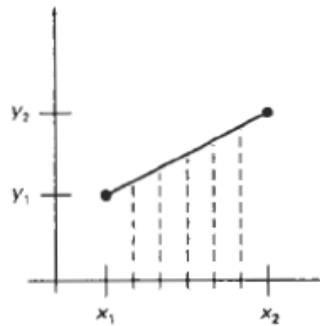

Figure 2: Straight line segment with five sampling positions along the x axis between x_1 , and x_2 .
- ❖ On raster systems, lines are plotted with pixels, and step sizes in the horizontal and vertical directions are constrained by pixel separations. The scan conversion process for straight lines is illustrated in Figure 2, for a near horizontal line with discrete sample positions along the x axis.